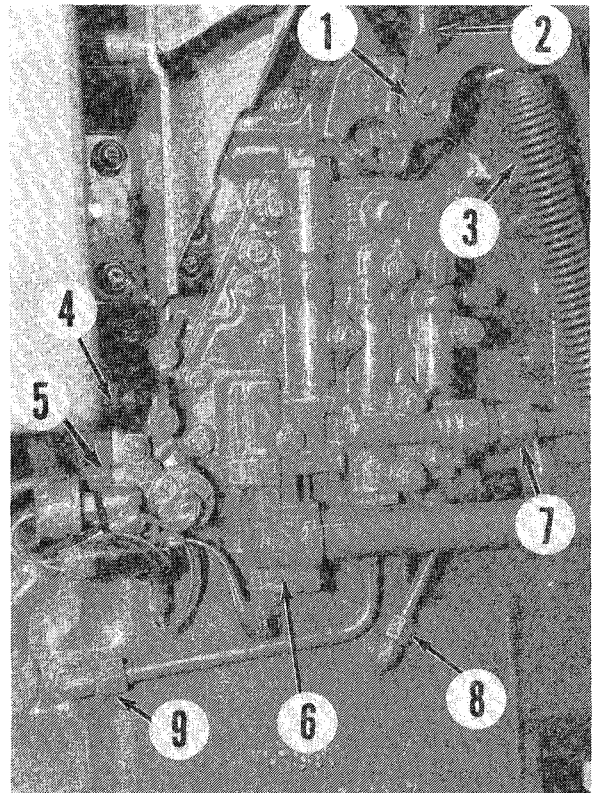

Fig. 148—Traction clutch valve housing is mounted on left side of clutch housing.
129. TRACTION CLUTCH VALVE HOUSING. Remove battery, battery box and step, wiring shield and Sound-Gard body front mount from left side of tractor. Disconnect traction clutch control rod (1—Fig. 148), pto control rod (2) and return spring (3). Identify and disconnect wiring connections. Disconnect oil cooler line (4), pto clutch line (9), pto brake line (8), filter bypass line (7) and MFWD oil line (5). Remove valve housing mounting cap screws. Do not remove the six, smaller diameter cap screws that attach the transmission oil pump. Remove valve housing from transmission case.